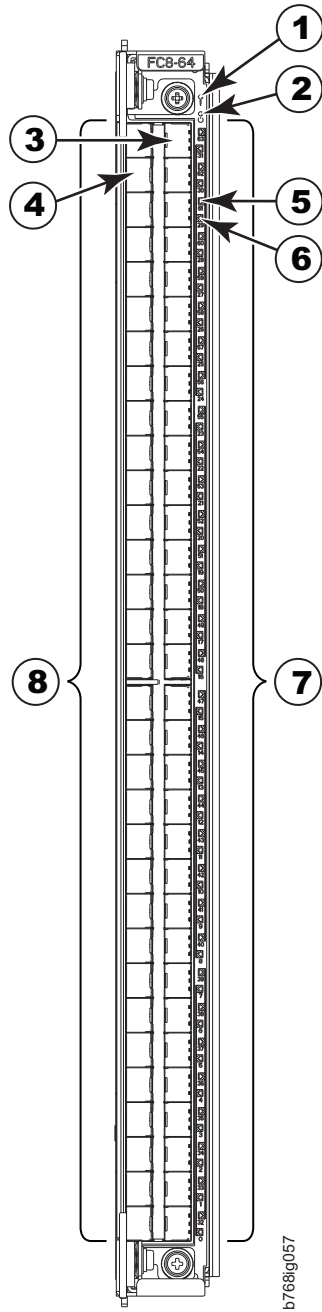

Figure 42. FC8-64 port blade
- Figure 42 on page 141 shows an FC8-64 port blade